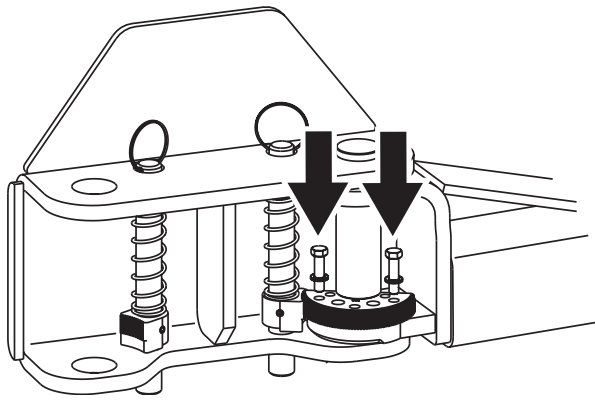
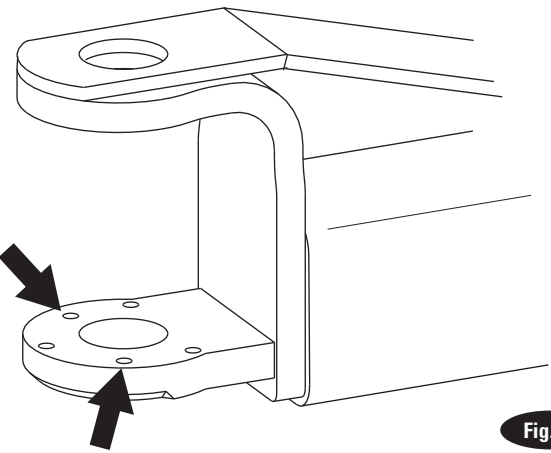

Fig. 17c
Fig. 18
Then, install the (2) 3/8" -16NC x 1-1/2" HHCS (8 total for all 4 arms) and 3/8" Spring Lockwashers into the gear and arm, but do not tighten. Reference Fig. 17c, Fig. 18, and Fig. 19.